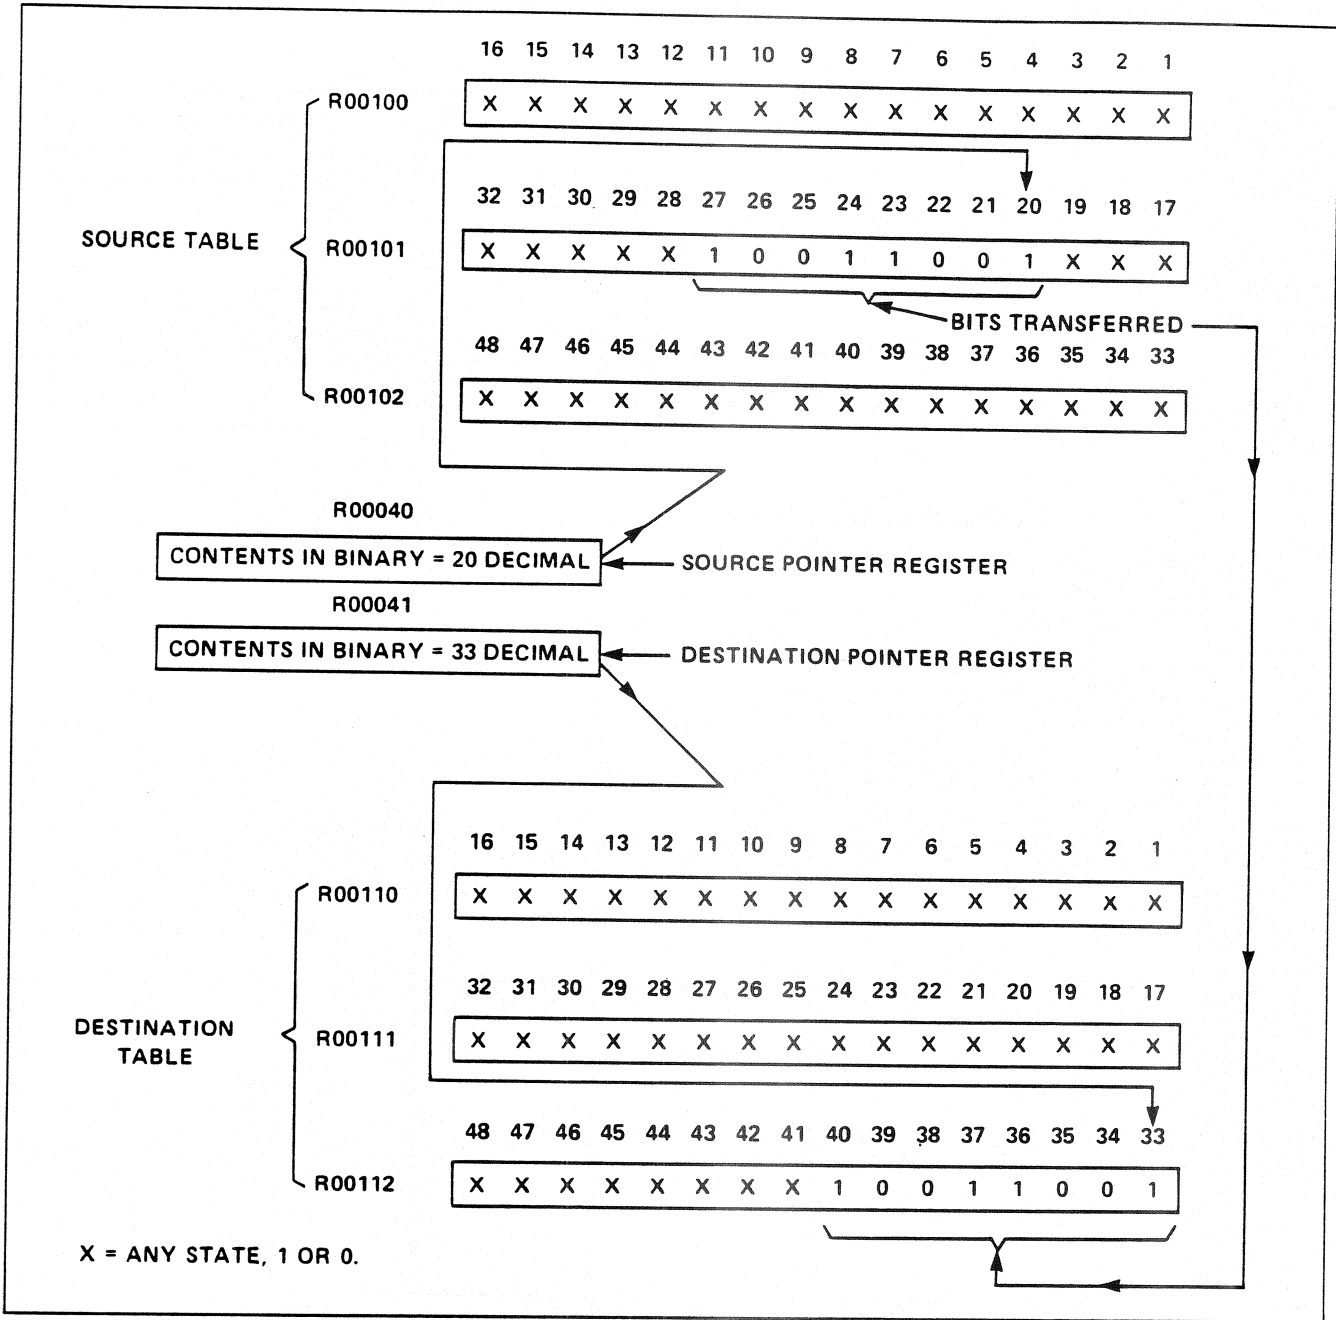

Figure NB-2. N Bit Move Example
4. The total number of bits transferred is specified in the = of Bits entry. See Figure NB-2 and note the bit transfer in the example shown where bits 20 thru 27 of the Source Table are transmitted to bits 33 thru 40 of the Destination Table.